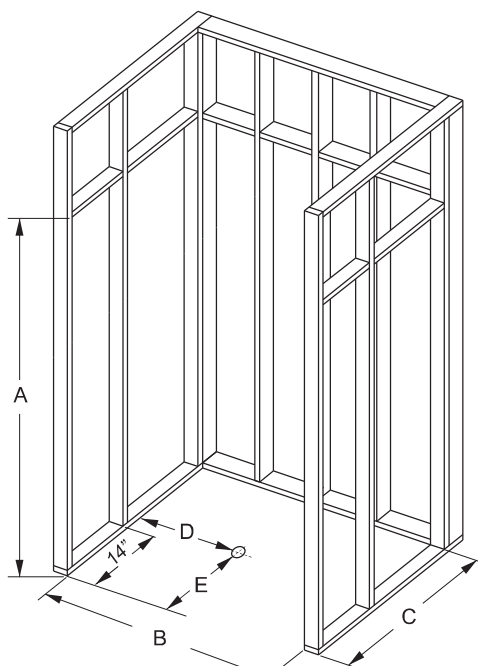
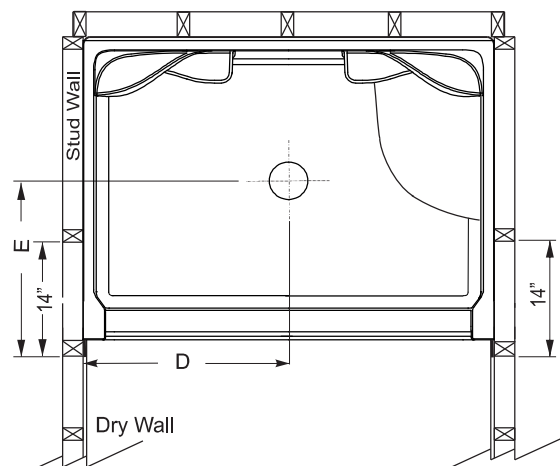

FIGURE 1 - LAYOUT DIMENSIONS
FIGURE 2 -TOP VIEW OF THE SHOWER STALL IN THE ALCOVE
- The Shower Stall is to fit into framed alcove as shown in Figure 1 and Figure 2.
- Framing: Inside dimension of the studded alcove are to be as specified in Figure 1.
- Build solid framing to the dimensions in Figure 1.
- The drain location on the shower is shown in figure 1.